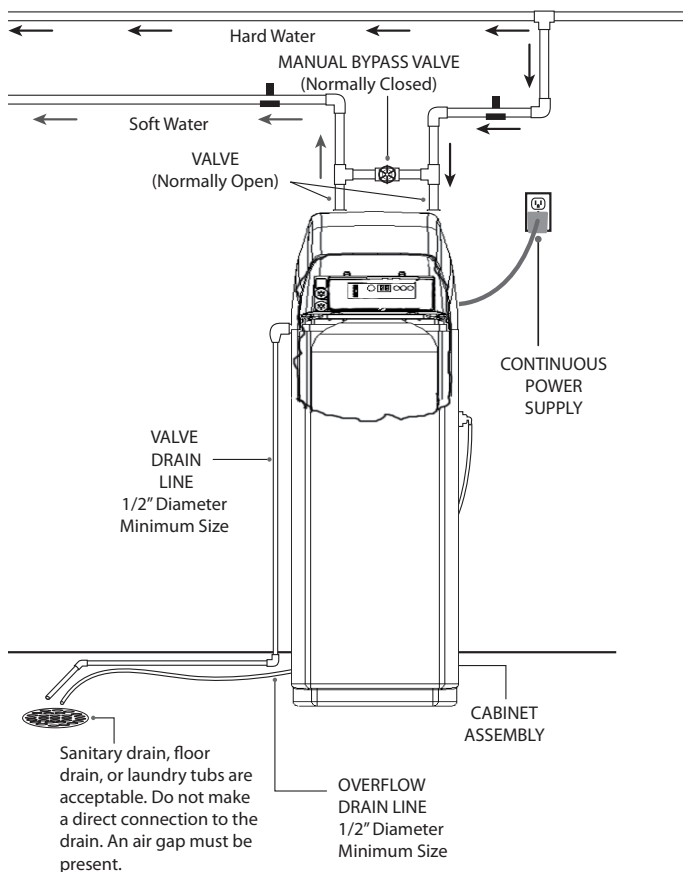

Figure 5
5. Shut off the water to the home. Open the highest faucet in the plumbing system and then the lowest (you cannot work on pipes with water in them). Make necessary piping changes for connection of the filter to the plumbing of the home (see Figure 5).